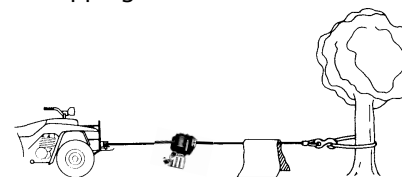

Figure 4
11. It is a good idea to lay a heavy blanket or jacket over the wire rope near the hook end when pulling heavy loads (Figure 4). If a wire rope failure should occur, the cloth will act as a damper and help prevent the rope from whipping.